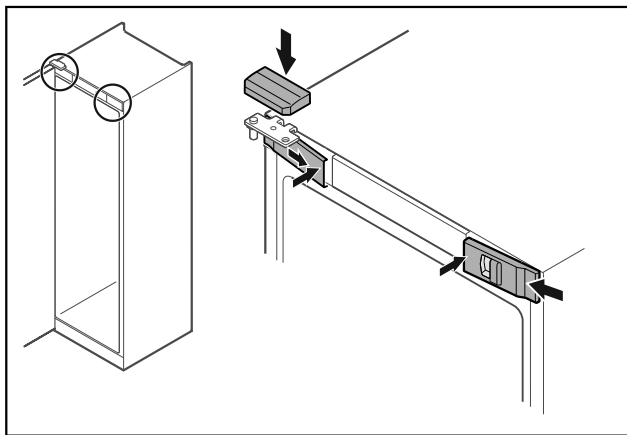

Fig. 50
- Hook in the front covers Fig. 50 (1) on the side and snap them into place on the inside.
- Snap on the top cover Fig. 50 (2) from above.